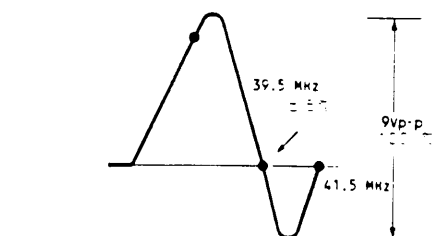

Fig 5a.
- 2: Adjust T101 so that the picture carrier 39.5 MHz is as centred as in Fig. 5a.